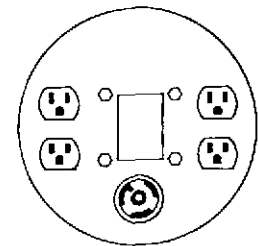

Figure 7
amp receptacle. Figure 7 shows receptacle plate installed on 6.5 and 7.5 KW models with dual voltage 120/240 volt output using (2) 120 volt, 20 amp duplex receptacles and a 240 volt, 3 wire twist-lock 30 amp receptacle. Figure 8 shows receptacle plate installed on 8.5 KW model with dual voltage 120/240 volt output using (2) 120 volt 20 amp duplex receptacles, a 120 volt 30 amp 3-wire twist-lock receptacle and a 240 volt 30 amp 3-wire twist-lock receptacle. Figure 9 shows side mounted receptacle panel (fire department models). Dual voltage (top picture) 120/240 volt output has (2) 20 amp 120 volt 3 wire twist-lock receptacles, a 20 amp